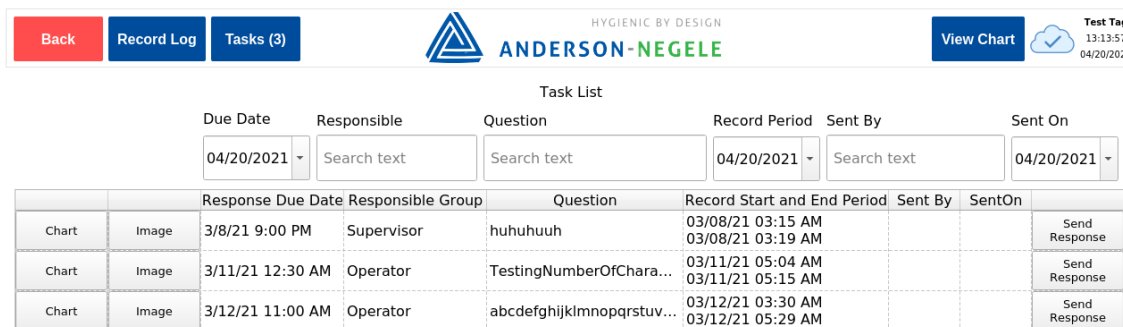

Figure 62: Open Task List
3. A detailed list of all open tasks will appear, as seen in Figure 62 below